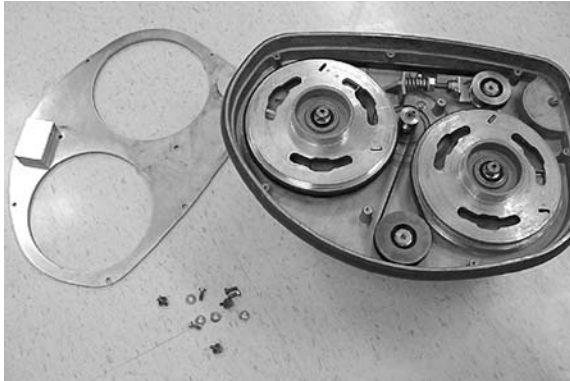

FIG. 63
- Carefully lay the scrub head bottom side up and remove the belt cover, 10 mm wrench required (Figure 63).